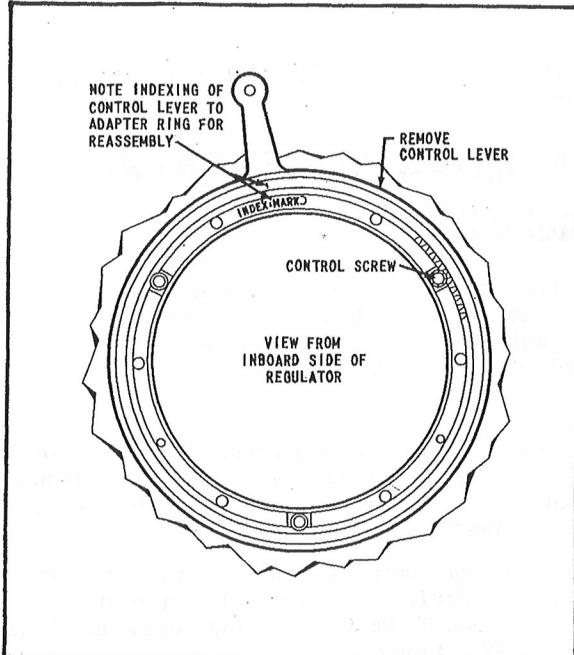

Figure 2
- d. Make certain the control lever is in the full clockwise position. Lift off the adapter plate and note the index marks on the control lever and adapter ring. (See figure 2.)
j. Index and install the control lever. Index the lever to the mark on the adapter ring as it was found when disassembled. (See figure 2.) Indexing must be as follows: